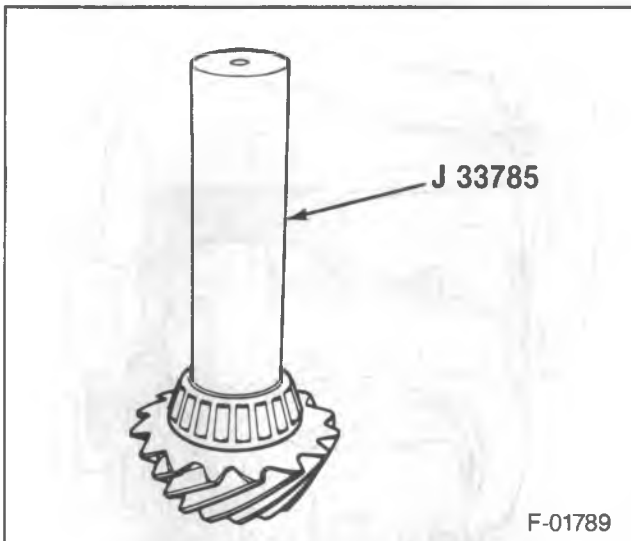
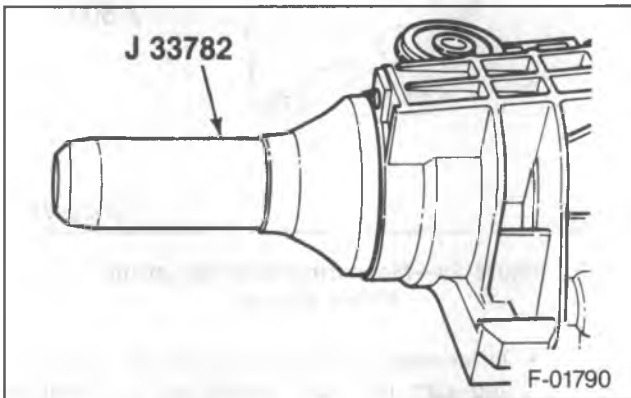

Figure 20—Installing the Pinion Bearing
Figure 21—Installing the Pinion Seal
1. Shim (38) to the pinion gear (37).
2. Bearing (39) onto the pinion gear (37) using J 33785 (figure 20).
3. New spacer (40) onto the pinion gear (37).
4. Bearing (41) into the case.
5. Seal (42) into the case using J 33782 (figure 21).
7. Deflector (43), flange (44), washer (45) and nut (46).